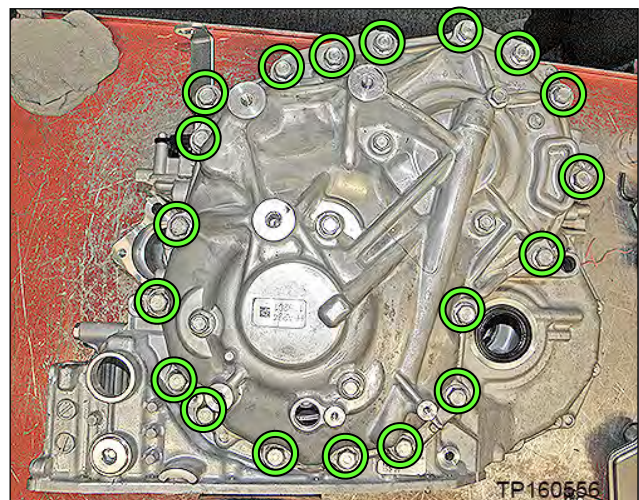

Figure 75
57. Remove the nineteen (19) side cover fixing bolts (Figure 75).